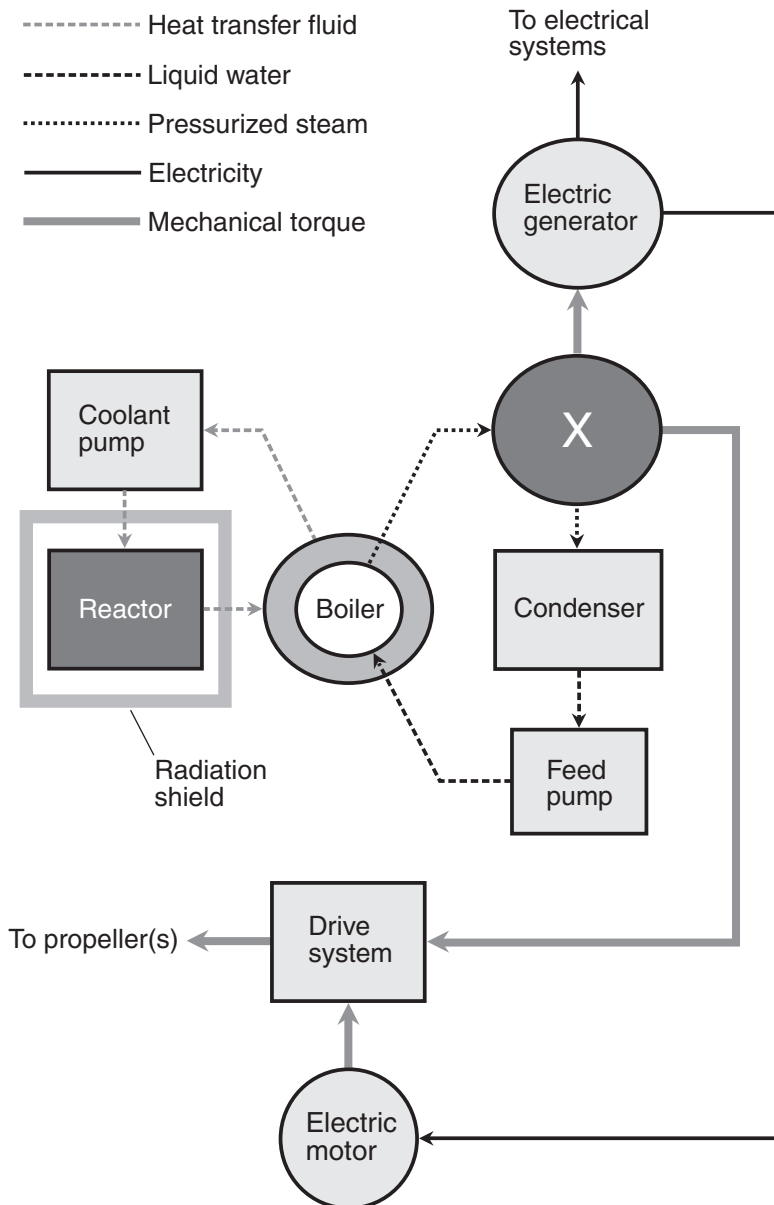

Figure Exam-4 Diagram for question 44.
44. Figure Exam-4 is a block diagram of a nuclear fission reactor for use in an oceangoing vessel. What component is represented by the ellipse marked X?